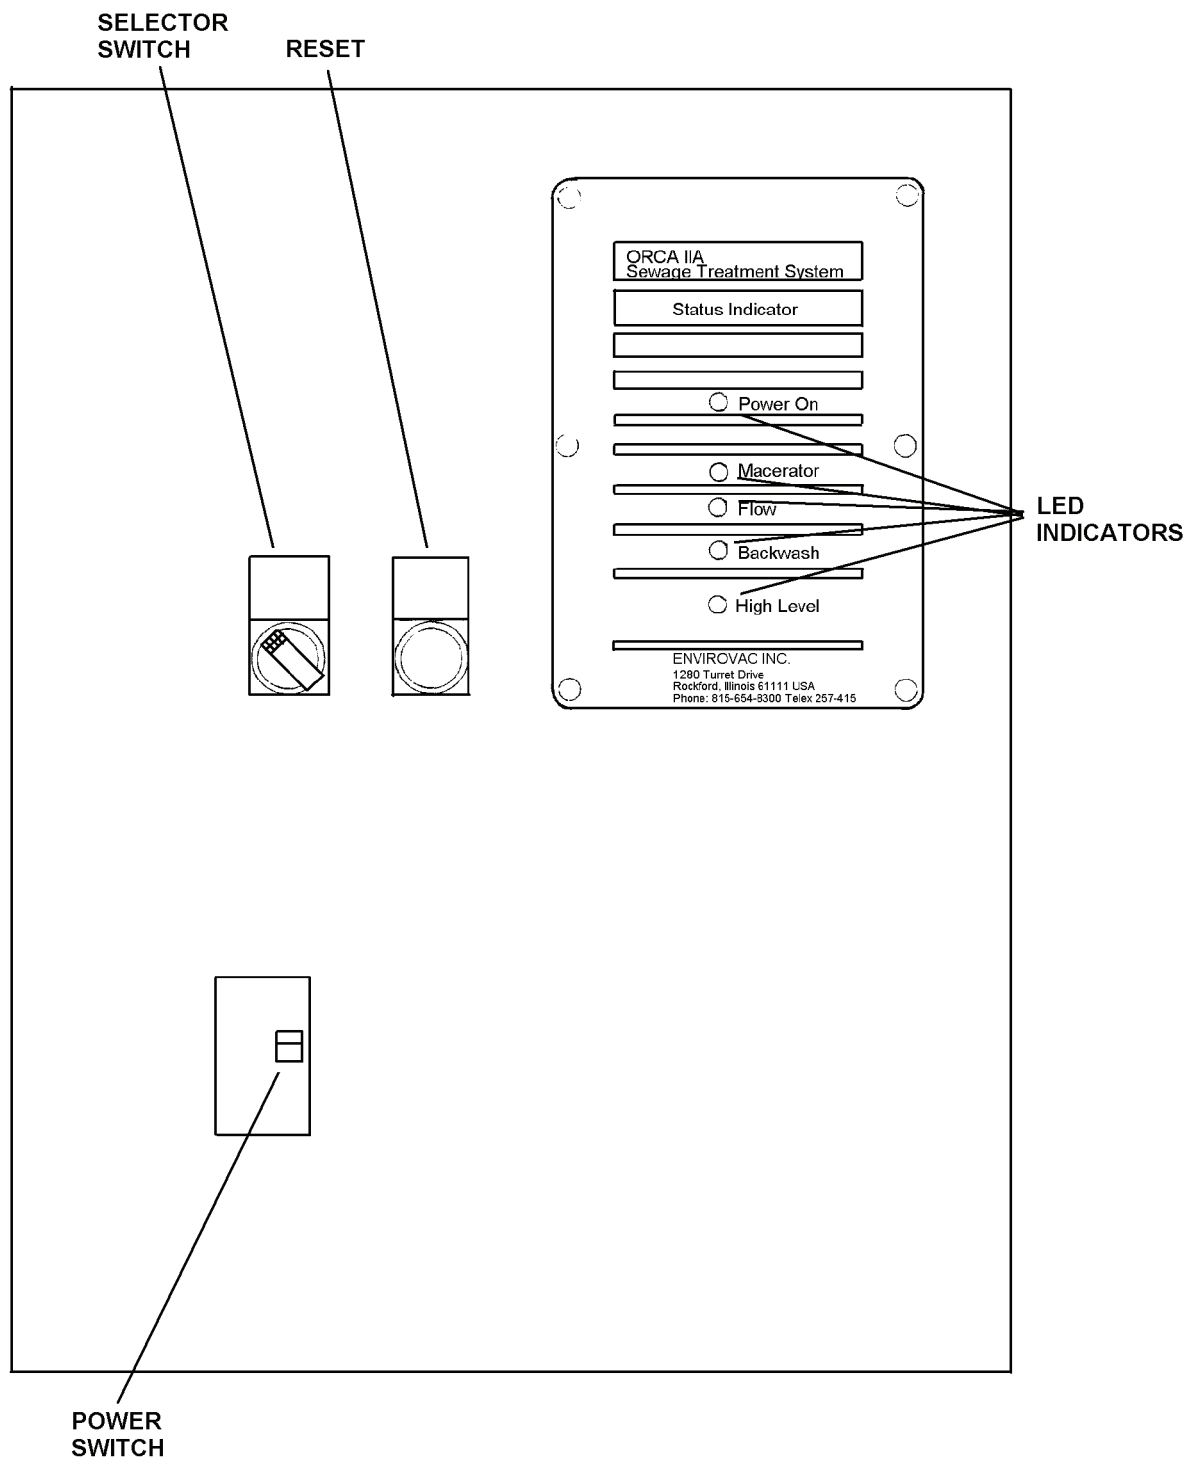

Figure 1-3. Marine Sanitation Device Control Panel Assembly.
- (1) The Marine Sanitation Device is a self contained unit. All of the major components are located within the enclosure panels of the unit, with the exception of the bleach tank, commode warning light, and remote status indicator panel.
- (2) The system is equipped with an electronic monitoring system which automatically controls the treatment of sewage, warns of any motor shutdown, and pinpoints the problem motor. It also warns of any treatment tank overload condition, thus avoiding damage to other system components or to the vessel's electrical supply.
- (3) The control system comprises one modular unit. The control panel assembly (Figure 1-3) houses the electronic monitoring circuit and an in-line circuit breaker.